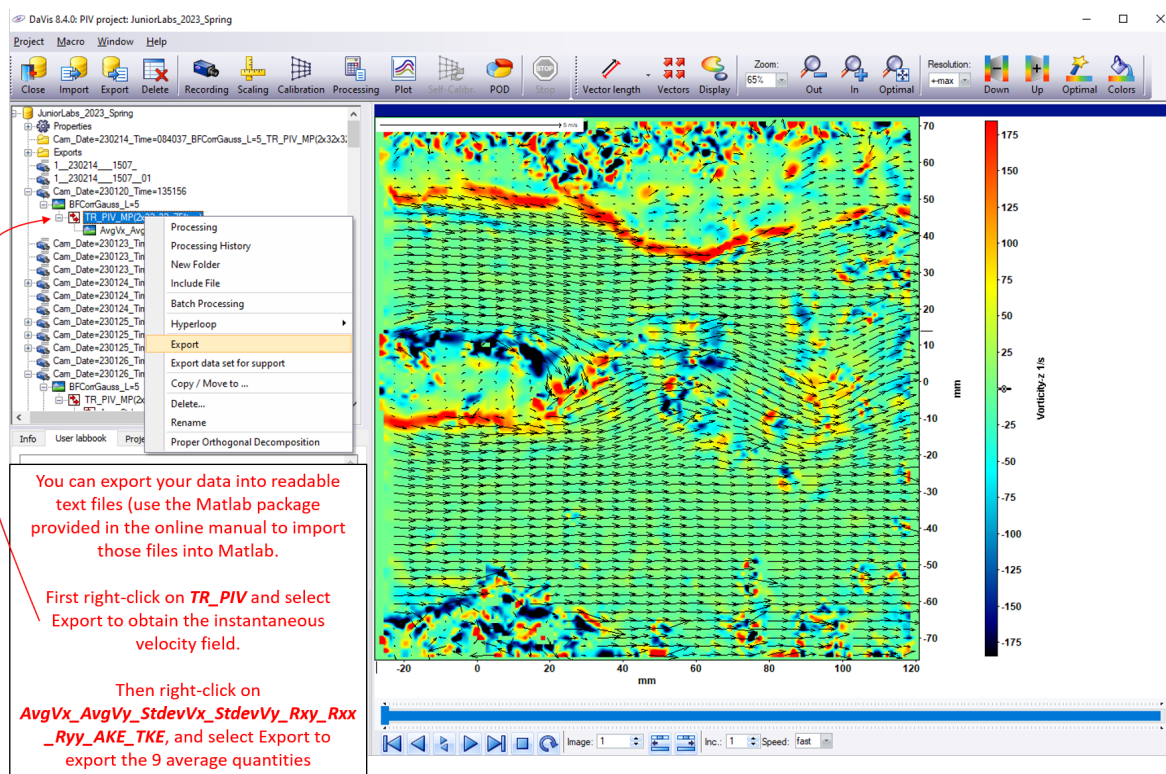

Figure 18: Enter the ”Export” module.
- Under the drop-down list click ”Export” as shown in Figure 18.